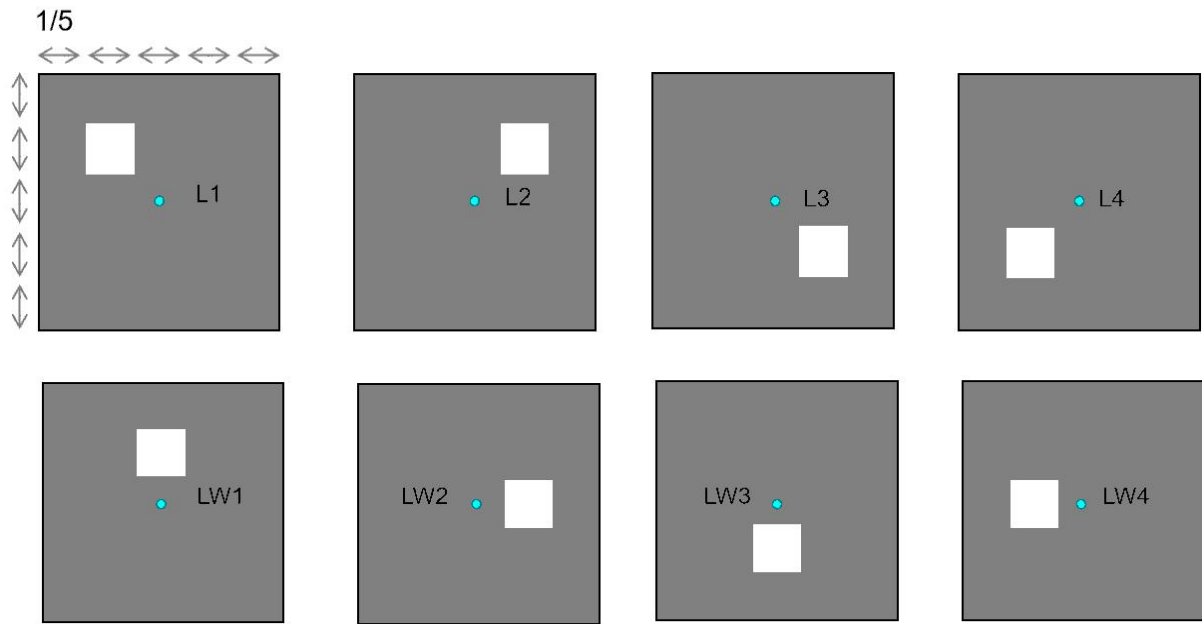

Figure 4. crosstalk measuring pattern
(4) Test crosstalk in dark room, use the pattern as figure 4. the center point of pattern, and the background gray level is 127.